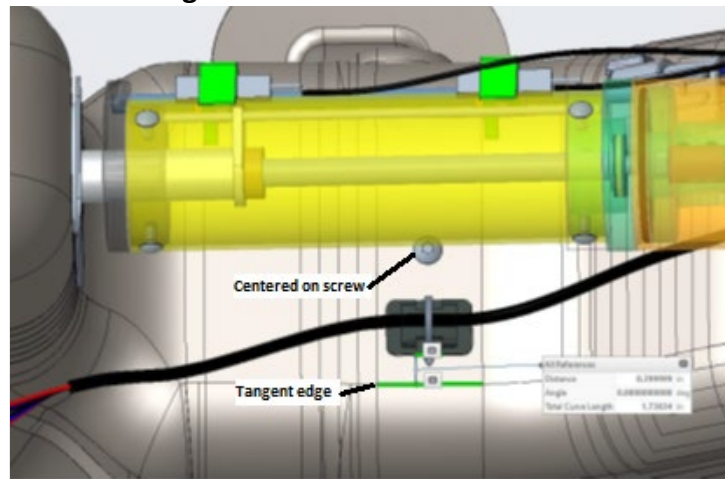

Figure 16. NLG retrofit Tie mount block
NOTE: If additional slack for harness is needed, it is permissible to also relocate the zip- tie shown in **Figure 16.**
21. Install tie mount on the NLG box. Center the mount with screw and about 0.400 inch upwards from tangent edge as shown in **Figure 16** below.